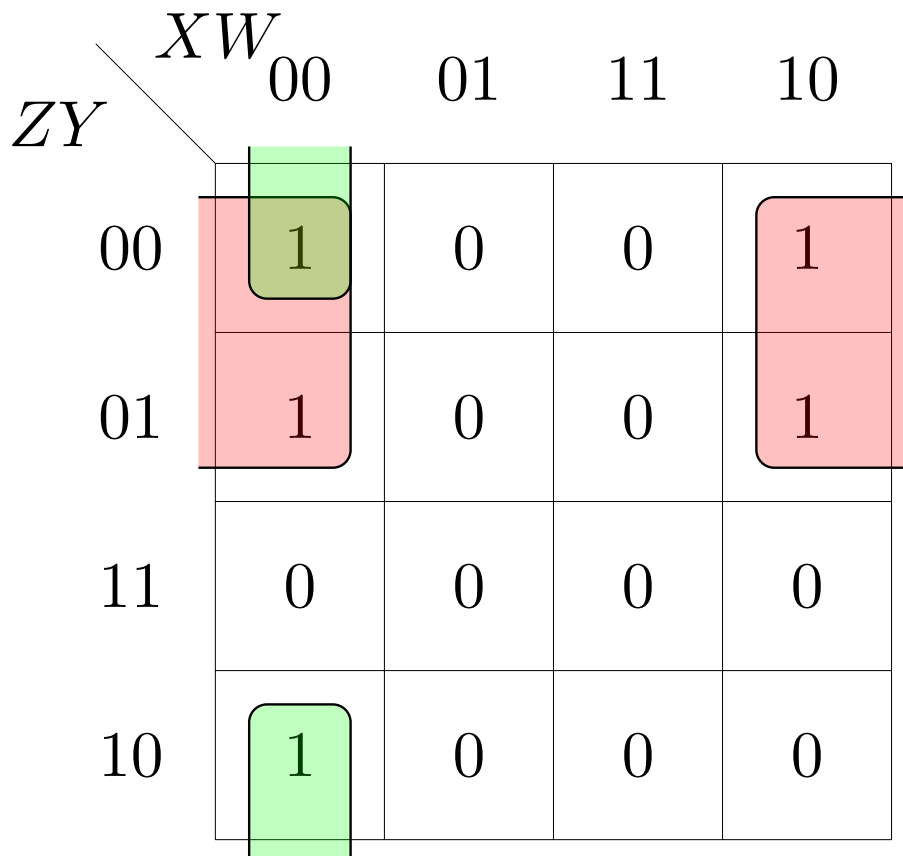

Figure 4.1: K-map for A
1. K-Map for A : The expression in (4.1) can be minimized using the K-map in Fig 4.1 In Fig 4.1, the implicants in boxes 0,2,4,6 result in $W'Z'$ The implicants in boxes 0,8 result in $W'X'Y'$ Thus, after minimization using Fig 4.2, (4.1) can be expressed as